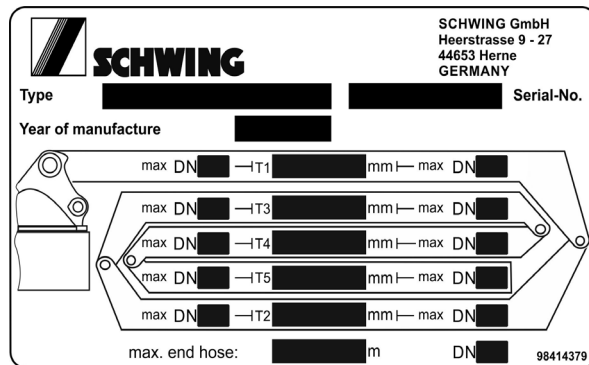

Fig. 171 Example: Type plate on 5-part boom
A distinctive type plate is located on the placing boom for the placing boom pumping line (**Fig. 171**). The nominal sizes (DN) specified on this type plate are the maximum allowable.
Caption for (Fig. 171)